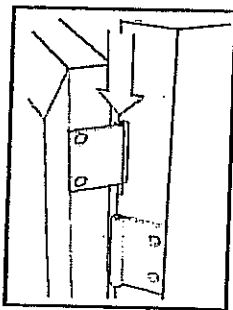

Figure 1
(see Figure 1)
Attach Doors (T) and (U) by sliding the door lift hinges into the side panels lift hinges. (see Figure 1)
Attach V2 to V3 and V4 using long wood screws (4X), tighten halfway. (see Figure 1)